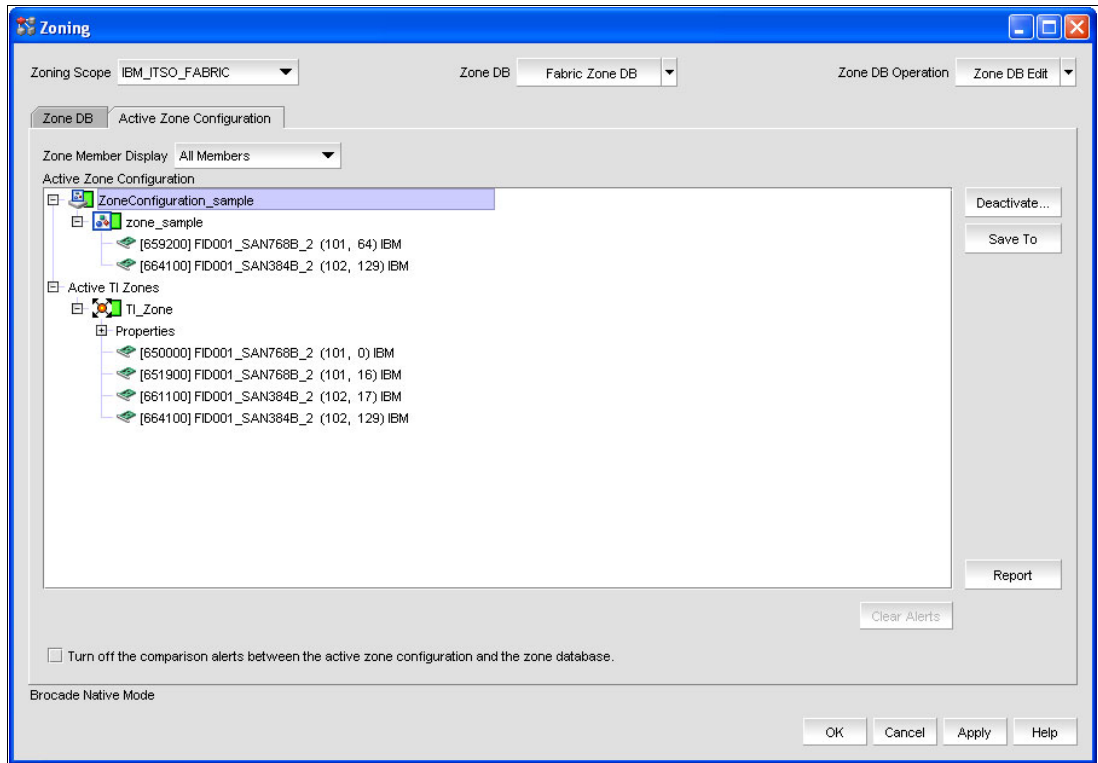

Figure 8-60 TI zoning activated
8. To verify that the TI zone is active, click the **Active Zone Config** tabs shown in Figure 8-60 on page 302.